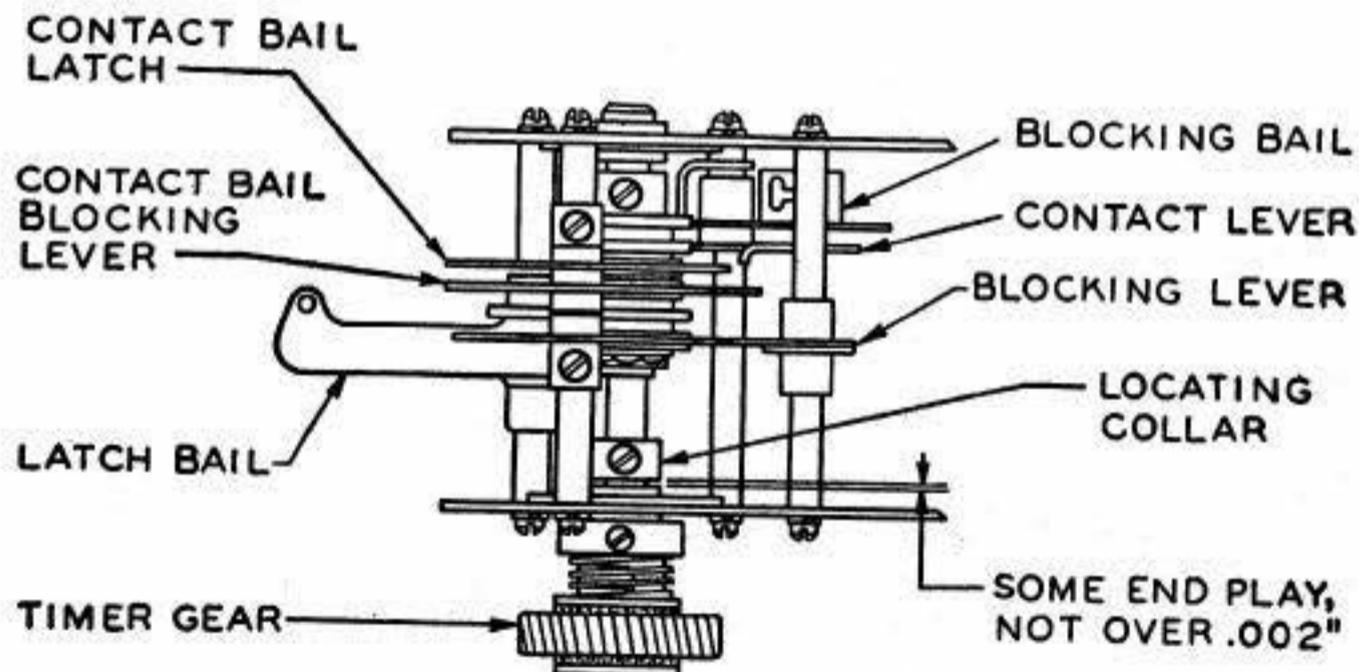

Fig 32
4.01 **Timer-Shaft Endplay:** The timer shaft should have some endplay, not more than .002". **Fig 32**
4.02 **Cam Followers** should ride fully on their respective cams on the timer-sleeve. **Fig 32**